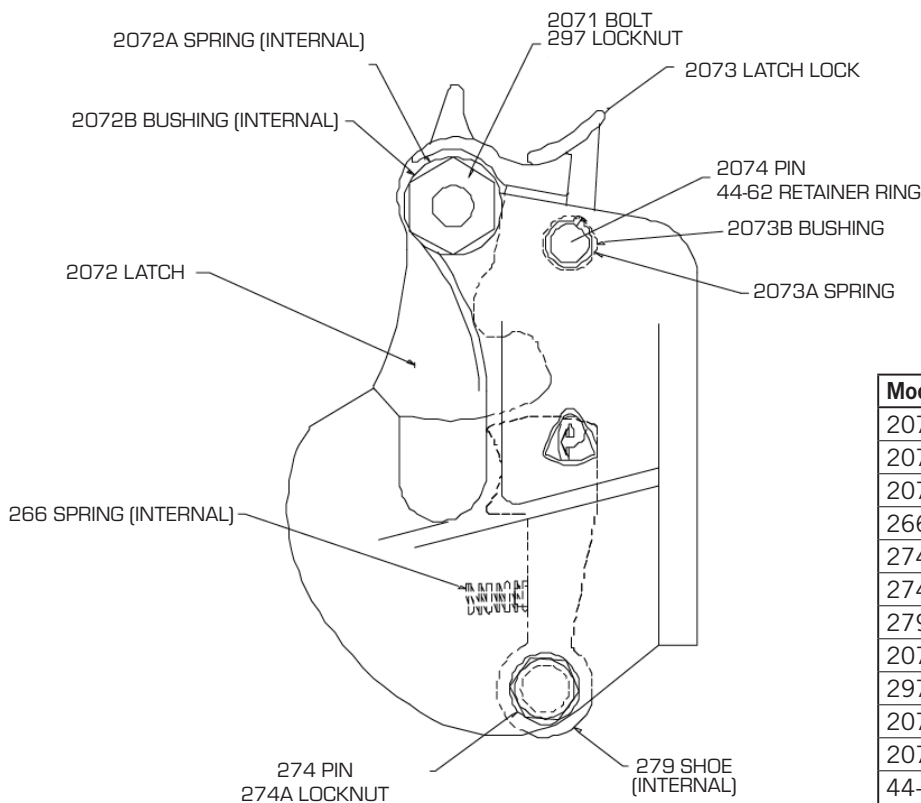

Figure 5
1. Referring to fig. 5, insert 2073A spring into upper left side of body and slide 2074 pin partially through body and spring (make certain that hook on 2073A spring is positioned to the right).